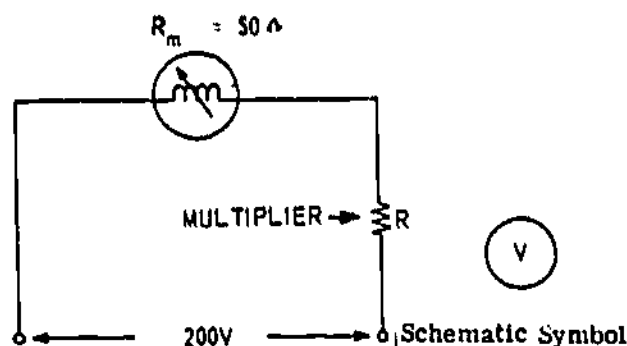

Figure 5-18. Voltmeter
**SOLUTION:** Since the current is the same in the moving coil and the multiplier resistor (see figure 5-18), the total resistance of the circuit must be:
5-56. Voltmeter Sensitivity. We usually express the sensitivity of a voltmeter in ohms per volt. The range of the voltmeter in figure 5-18 is 200 volts. That is, when 200 volts is across the terminals of the voltmeter, the needle deflects fully to the right. The total resistance of the meter is 100,000 ohms. Therefore, the ohms-per-volt ratio or sensitivity is  $\frac{100,000 \Omega}{200 \text{ V}} = 500 \text{ ohms per volt}$ .
volt by finding the reciprocal of this current. For example, the voltmeter in figure 5-18 requires 2 mA for full-scale deflection. Therefore, its sensitivity in ohms per volt is  $\frac{1}{0.002} = 500 \text{ ohms per volt}$ .